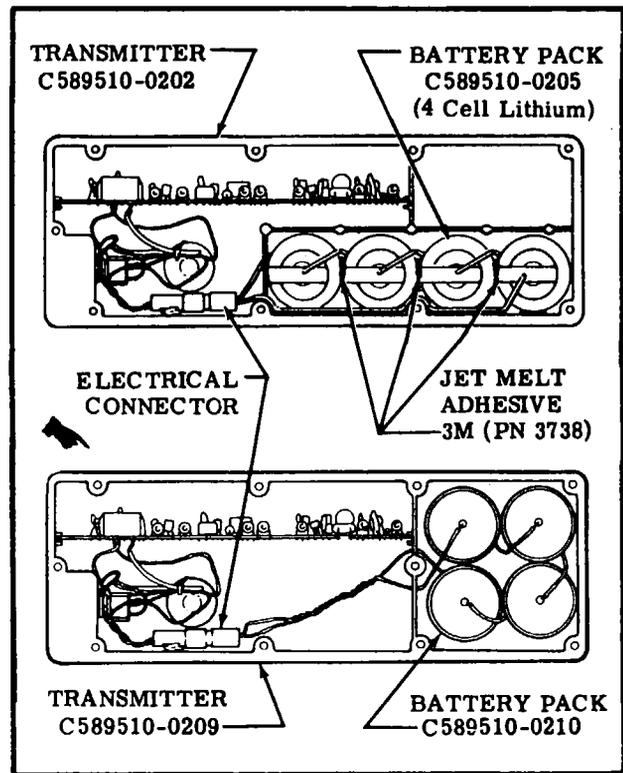

Figure 17-22. Lithium 4 Cell Battery Pack Installations
17-129. REMOVAL AND INSTALLATION OF LITHIUM FOUR (4) CELL BATTERY-PACK. (Refer to figure 17-22.)
- d. Place new battery-pack in the transmitter with four batteries as shown in the case in figure 17-22.
- e. Connect the electrical connector as shown in figure 17-22.